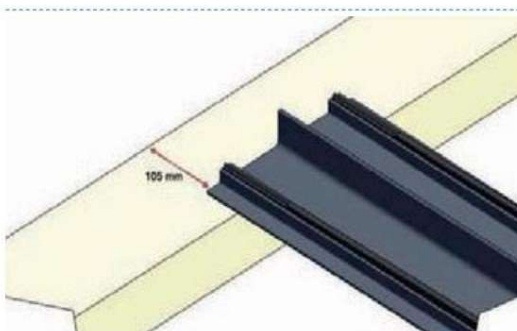

Fig. 1 Alignment of the slat with the upper end of the profile in the center of the field
1. Mount the lower profiles a) Align the upper end of the profile rather in the center of the roof see figure 1: